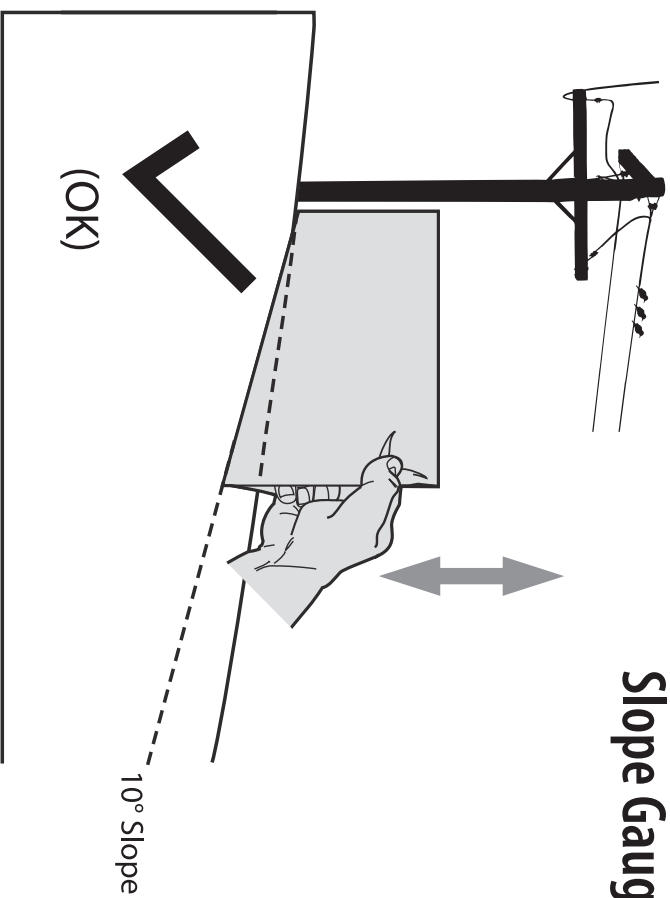
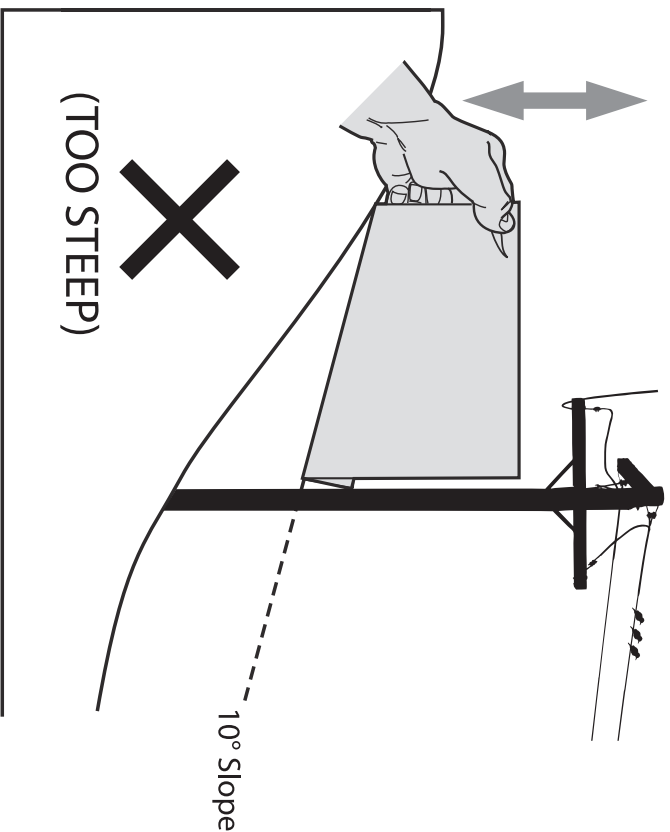

Figure 1
Figure 2
3. Align either side of the slope gauge with the object (See Figure 1 and Figure 2).
4. Adjust gauge up or down until the left corner touches the slope (See Figure 1 and Figure 2).
5. If there is a gap below the gauge, the slope is too steep for safe operation (See Figure 2).